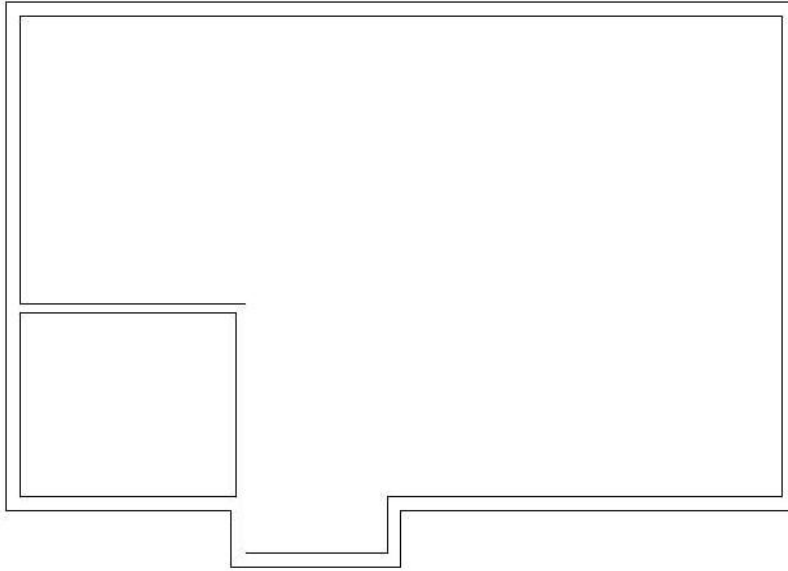

FIGURE 4.23: The second trim is completed.
5. Zoom Previous by typing **Z,↵P,↵**. Figure 4.23 shows the results.